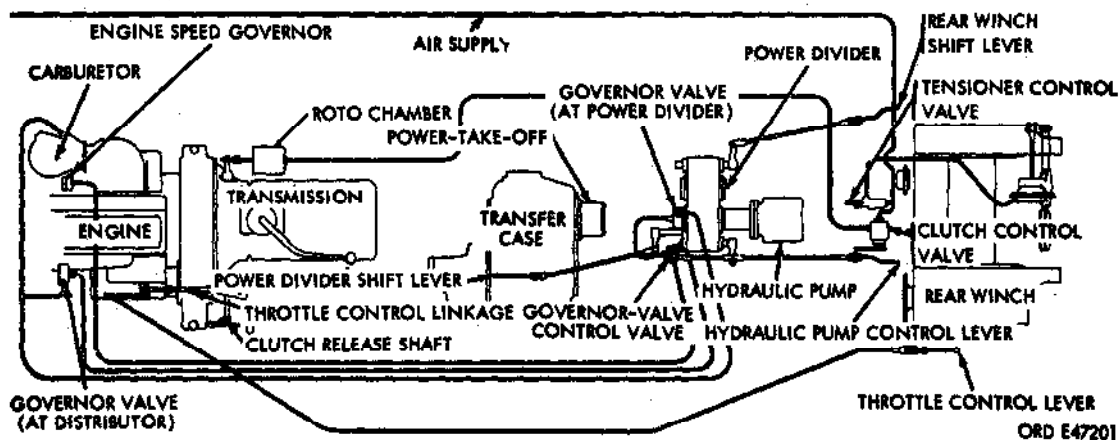

Figure 413. Wrecker crane air lines (M62)
o. Clutch Control Valve. The clutch control valve is a two-way air valve connected in the compressed air system (fig. 413) between the air supply line and the roto chamber ((p) below). The valve is bolted to a bracket attached to the front of the wrecker body floor plate. When the valve lever is in the DISENGAGE position, compressed air is permitted to pass through the valve and control-valve-to roto-chamber air line into the rear end of the roto chamber.
valve (fig. 413) are arranged so that the engine speed governor (fig. 413) is controlled by the governor valve (fig. 413) mounted on the rear of the distributor drive housing. This valve is adjusted to govern the engine speed at 2950 rpm (maximum no-load speed) for truck operation. When the hydraulic pump control lever is in the ENGAGE position, the air passages inside the governor-valve control valves are arranged so that the engine speed governor is controlled by the governor valve (W, fig. 417) mounted on the front of the power divider. This valve is adjusted to govern the engine speed at 1600 rpm (no-load) for crane operation. The power divider, hydraulic pump, and relief valve are removed from the vehicle as a single unit.